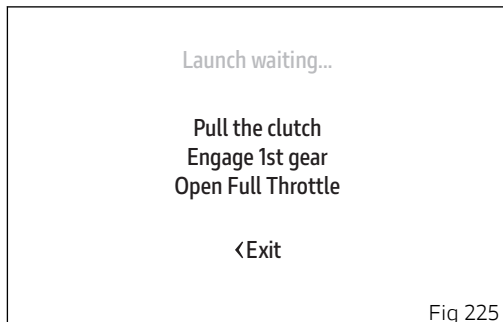
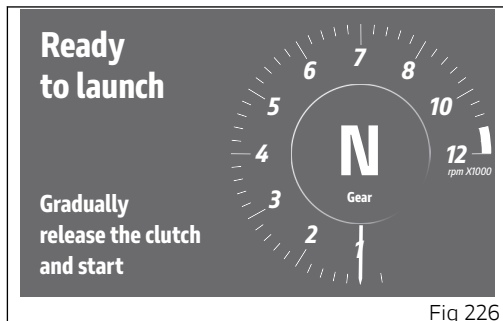

Fig 225
Fig 226
Once the DPL level is set, the instrument panel shows the wait screen for 2 seconds (Fig 225): during this time, if you press the ENTER button (3), the wait phase is interrupted and the instrument panel displays the main screen and sets the DPL to OFF. Then the instrument panel shows the "assisted launch" screen (Fig 226). After the assisted start, the instrument panel sets the DPL to OFF and shows the main screen again. The DPL is set to OFF by default by Ducati.